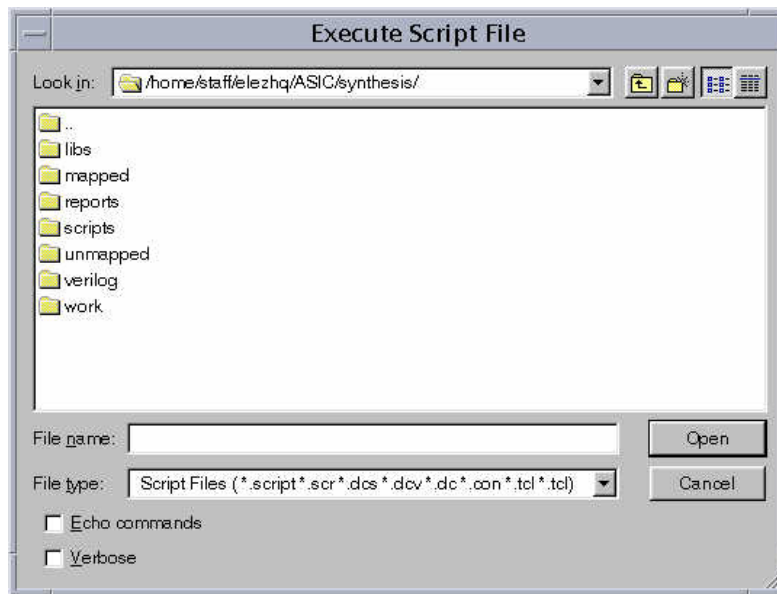

Figure 4-19 Execute Script File window.
1. To constrain a design, click on **File→Execute script...**. The **Execute Script File** window appears as shown in figure 4-19.